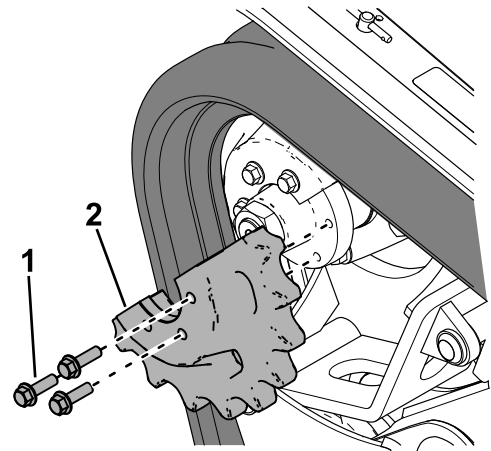

Figure 62
19. Apply thread-locking compound to the bolts of the drive sprocket half that you removed and install the sprocket half (Figure 62). Torque the bolts to 95 to 115 N·m (70 to 85 ft-lb).